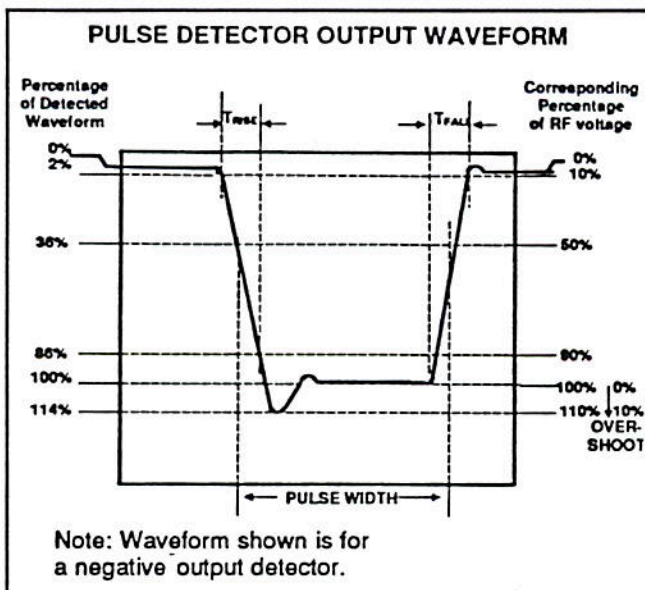

Figure 2-13. Measurement Parameters for Pulse Modulation Waveform
2. Observe the output of the Pulse Detector on the Oscilloscope. Refer to Figure 2-13 to interpret the detector waveform. Adjust the Oscilloscope controls to measure and record in the Test Record the following: